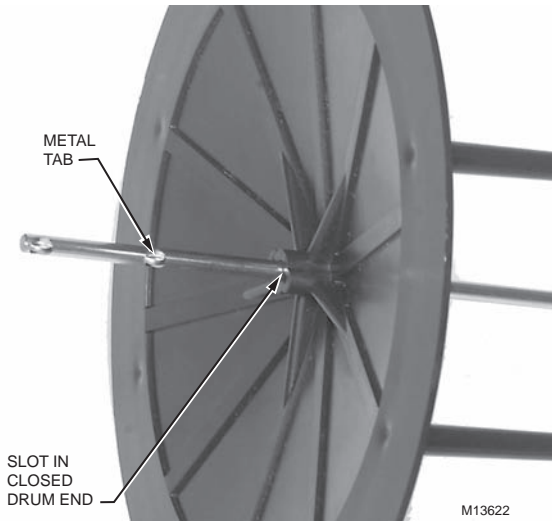

**Fig. 15. Sealing connections with tape.**
4. Seal both duct connections with Duct Tape. See Fig. 15.